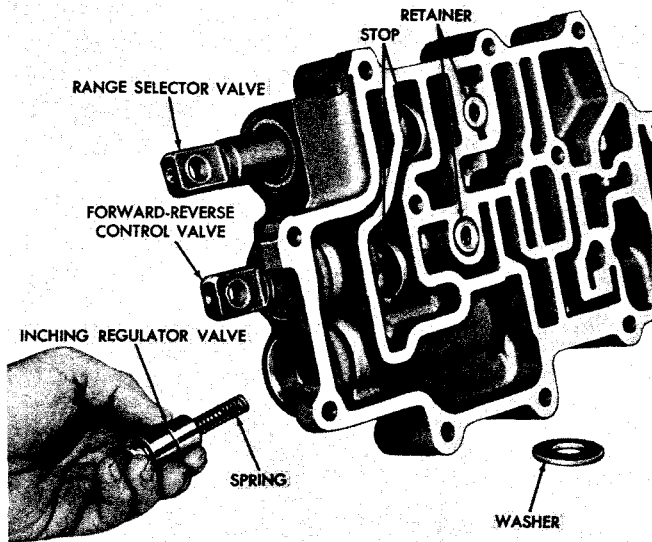

Fig. VI-6. Removing (or installing) inching regulator valve and spring—later model
(4) Remove the inching regulator valve and spring (fig. VI-6).
(5) Remove two spring retainers from the valve body (fig. VI-6). Remove the two springs and detent balls which are under the retainers.
(6) Remove two valve stops (fig. VI-6).
(7) Remove the range selector valve and the forward-reverse control valve (fig. VI-6). The valves may be removed by inserting a pin or rod through the linkage pinhole in the stem of each valve. Pull the valves out of their bores, using a small screwdriver or other tool to spread the inner lips of the oil seals when the valve shoulders tend to hang on them.
(8) Remove the remaining detent ball and spring from each valve bore.
(9) Remove the valve stem oil seals (fig. VI-6).
(10) Remove two plugs 23 (B, foldout 15).
(11) Remove bushings 8 and 35 from valves 9 and 34 if parts replacements are necessary.
c. Assembly (item 6, B, foldout 15)
(1) If bushings 8 and 35 were removed from valves 9 and 34, install new bushings. Press the bushings into the valve stems until they are flush with, or below, the surface of the stems.
(2) Install two plugs 23 into control valve body 24.
(3) Position the valve body, mounting side upward, and install spring 29 and detent ball 28. The hole into which these parts install intersects the range selector valve bore.
(4) Insert a small punch or pin to depress the ball and spring. Install range selector valve assembly 32, removing the holding tool when the end of the valve catches the detent ball. Push valve to a detent position.
(5) Install remaining detent ball 28 and spring 29. Install retainer 27, pressing it to flush with, or 0.020 inch below the mounting surface of the valve body.
(6) Install spring 26, detent ball 25, forward-reverse control valve assembly 7, remaining spring 26, remaining detent ball 25, and remaining retainer 27. Use the same procedures outlined in (3) through (5), above.
(7) Install the valve stops on the range selector and forward-reverse control valves (fig. VI-6).
(8) Install seal 31 (B, foldout 15), with spring-loaded side inward, onto the range selector valve stem.
(9) Install seal 10 onto the stem of the forward-reverse control valve and press it into the valve body as outlined in (8), above. Seal 10 is identical to seal 31 and installation is identical.
(10) Install the inching regulator valve spring and valve (fig. VI-6).